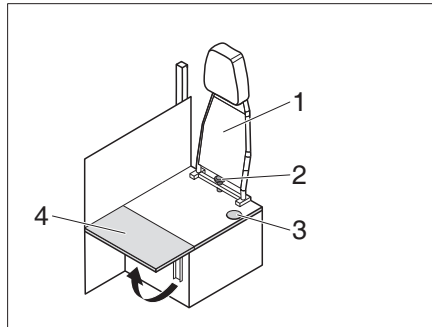

Fig. 203 Conversion drive - living mode
- Unscrew the star screw (Fig. 203,2) and remove the backrest (Fig. 203,1) towards the top.
- Fold up the bench seat extension (Fig. 203,4).
- ▷ When converting from living to travel mode proceed in the reverse order. Make sure that the safety belt is lead through the opening (Fig. 203,3).